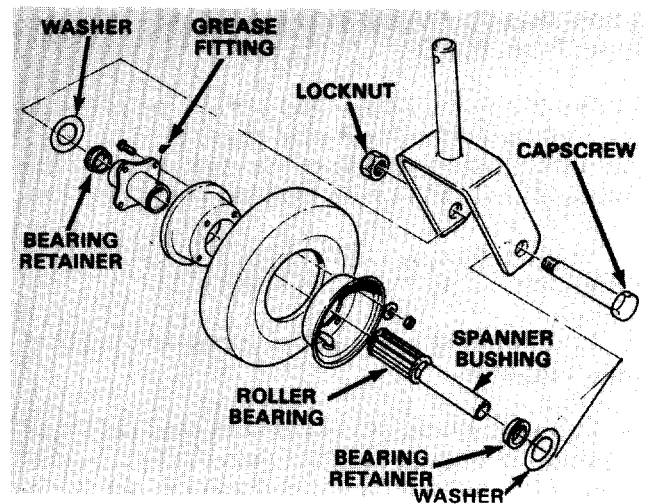

Figure 22
1. Remove locknut from capscrew holding castor wheel assembly between castor fork (Fig. 22). Grasp castor wheel and slide capscrew out of fork.
Note: Account for the two thrust washers (Fig. 22).
2. Tip wheel to the side and allow spanner bushing to fall out (Fig. 22).
6. Pump more grease through grease fitting on wheel (Fig. 22) until bearing is greased thoroughly.